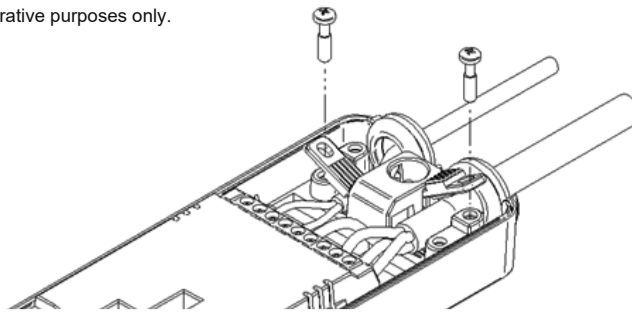

Fig. 6 - Blanking plugs
10. Fix together via two screws located on the front surface – both steps are shown in Fig. 6
11. To finish off pop the two blanking plug components over the screw heads. Fig. 6